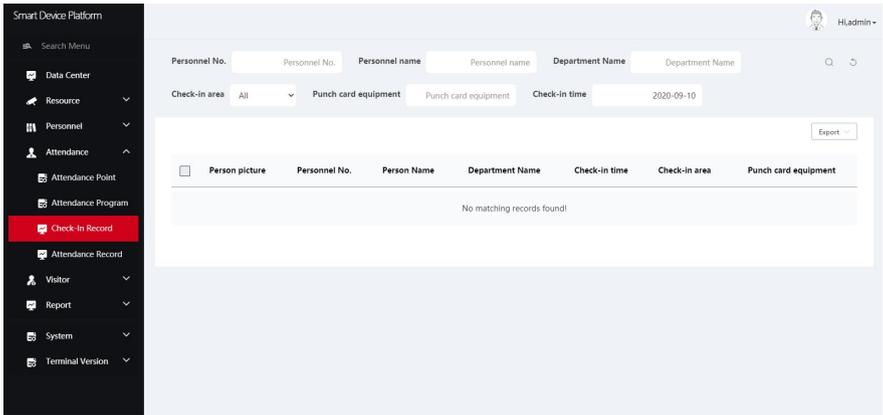

Figure 5-98
Step 1: Click "Attendance Management→Check-In Record" on the smart terminal platform interface to enter the attendance check-in/out record setting interface, as shown in Figure 5-98.